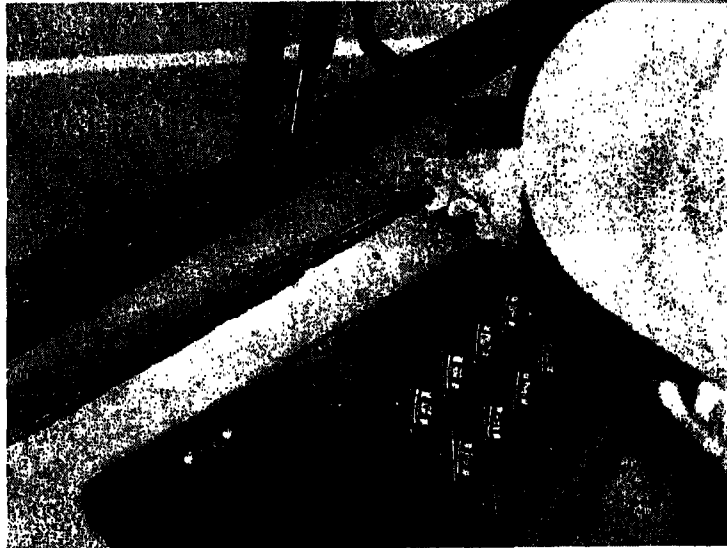

Figure 8
6. Remove excess Bond using plastic tool and clean with alcohol wipe. **Figure 8.**